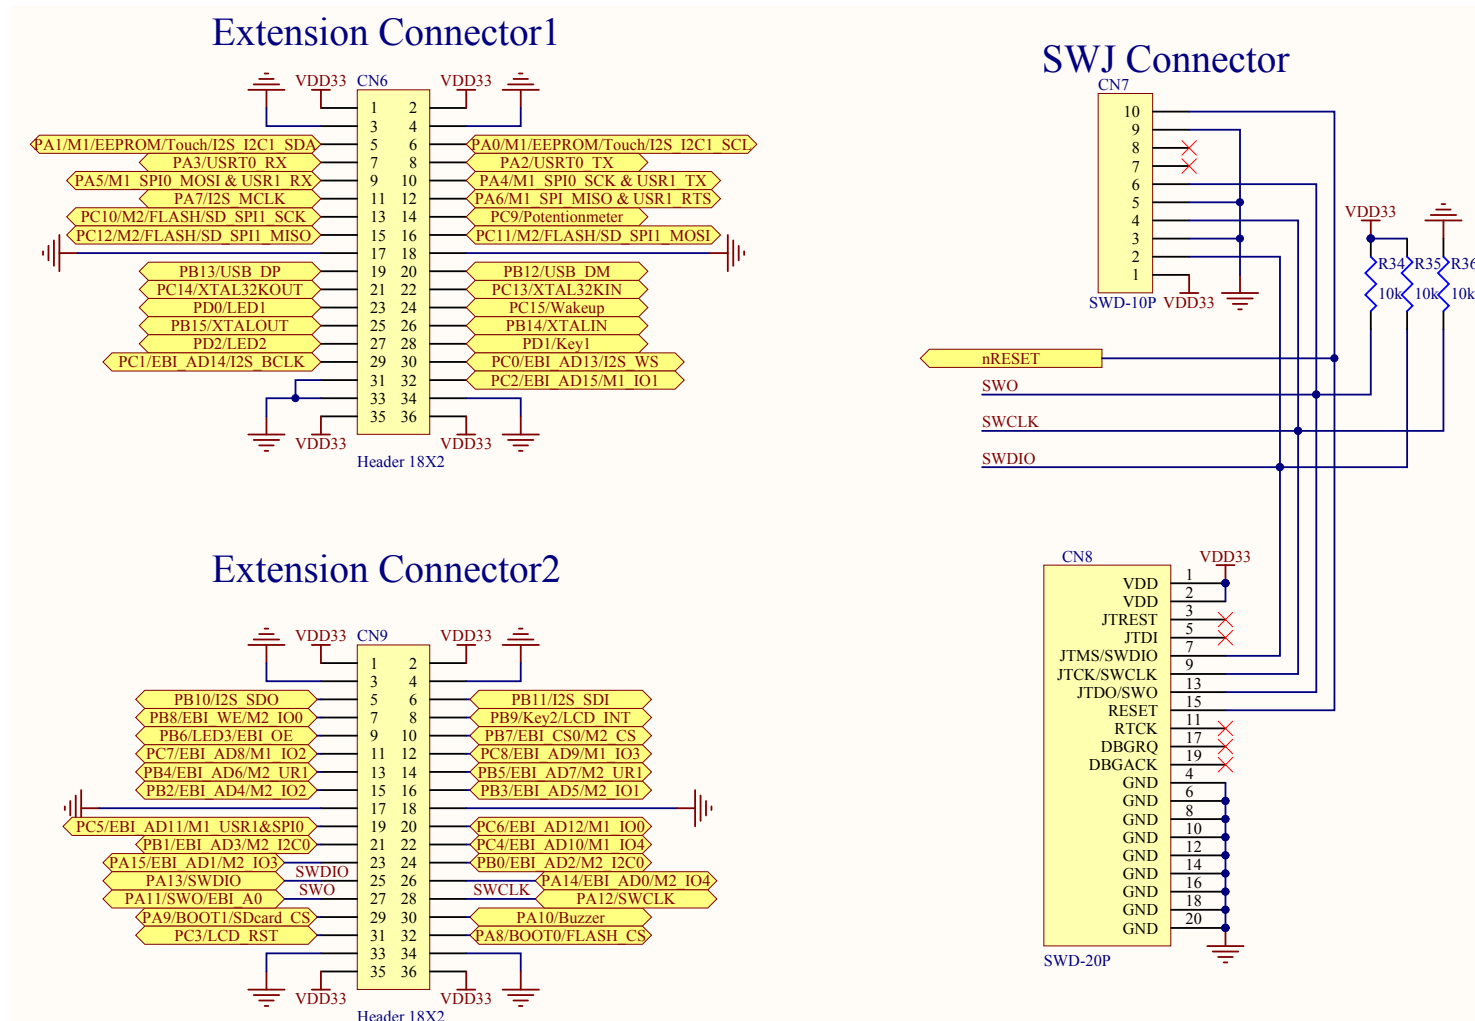

Figure 20. Includes the Extension Connector and SWD Connector
- Figure 20. Includes the Extension Connector and SWD Connector.